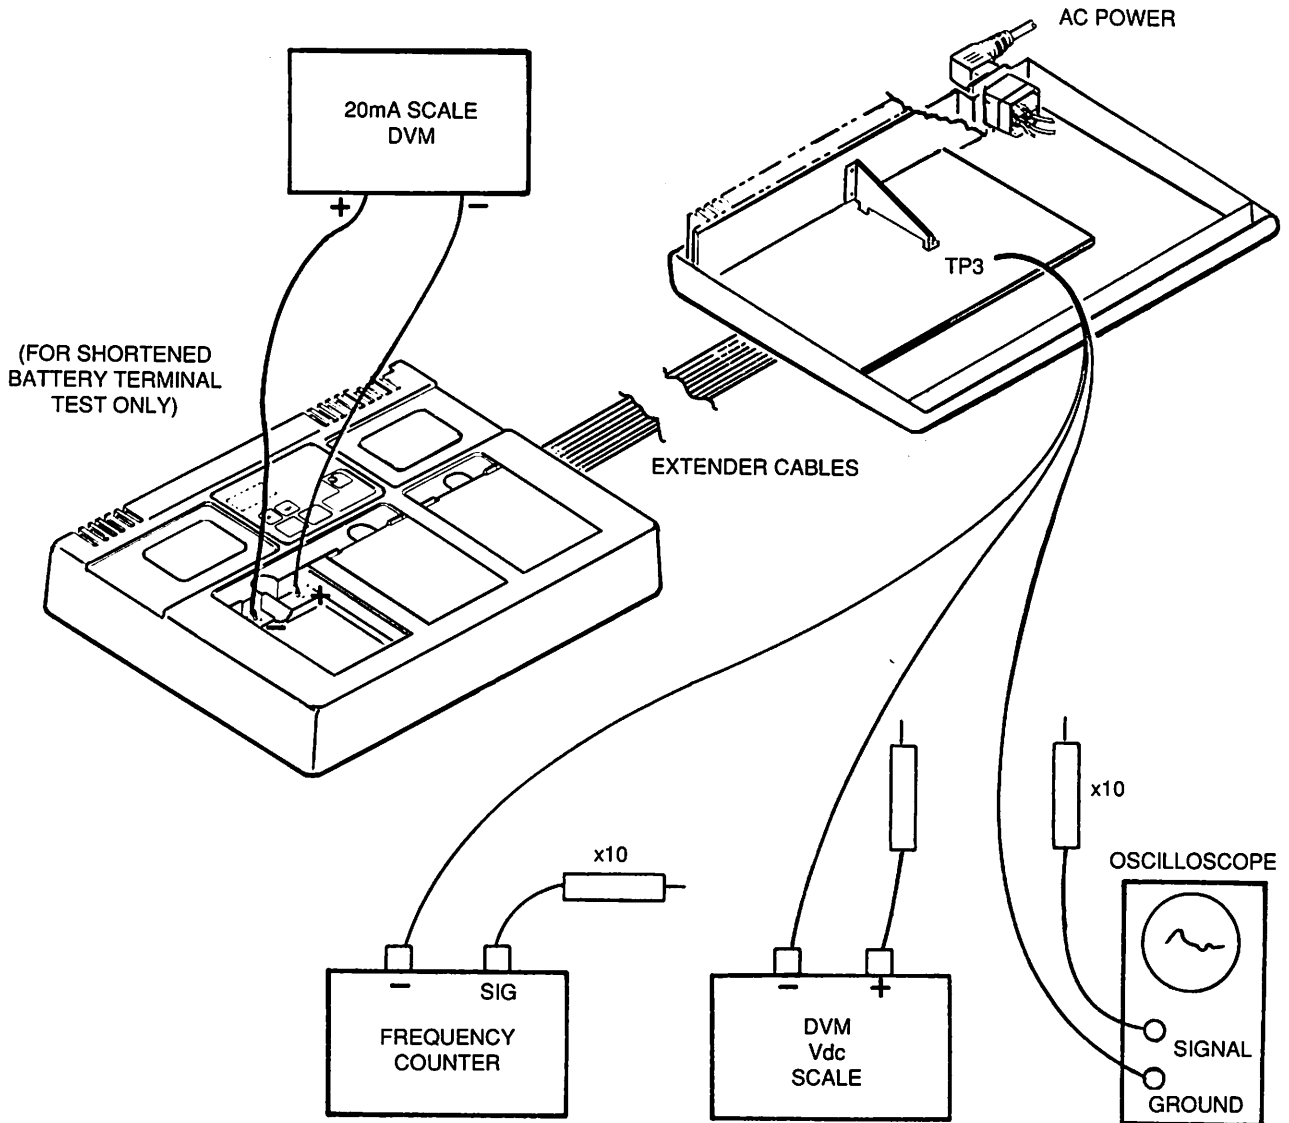

FIGURE 3-1. TEST SETUP
- B. Connect the test equipment as shown in Figure 3-1.